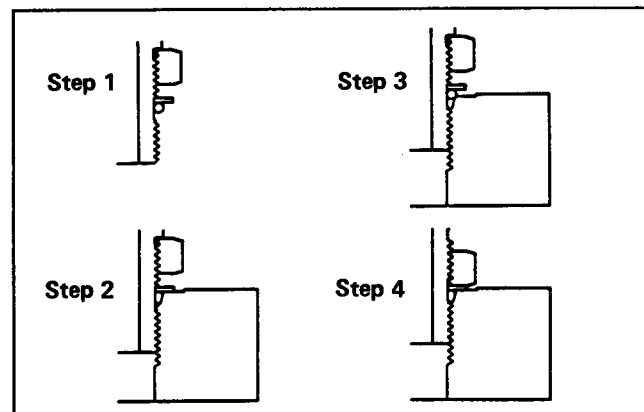

Figure 24
4. Turn back the jam nut as far as possible. Make sure the back up washer is not loose and is pushed up as far as possible (Fig. 24, Step 1).
5. Install the fitting into the port and tighten finger tight until the washer contacts the face of the port (Fig. 24, Step 2).
6. To put the fitting in the desired position, unscrew it by the required amount, but no more than one full turn (Fig. 24, Step 3).
7. Hold the fitting in the desired position with a wrench and turn the jam nut with another wrench to the correct flats from finger tight (F.F.F.T.) (Fig. 24, Step 4).